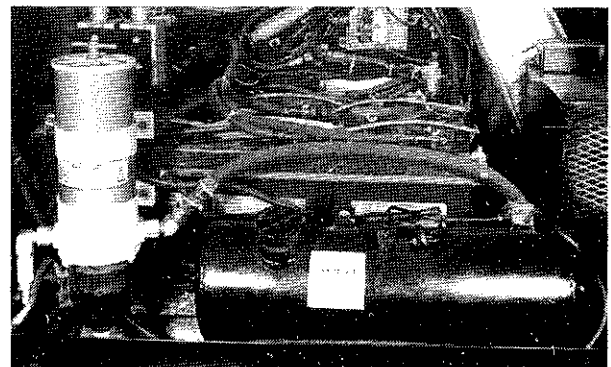

Figure 11-7. Bulk Oil Fill Tank.
4. **MASTER ON-EMERGENCY OFF Switch** (on leveling system control panel, figure 11-7) — Supplies power for the leveling system (in series with **LEVEL MASTER** switch). Turning this switch **OFF** stops the system from operating and automatically resets the microprocessor to the start position. When the **LEVEL MASTER** switch and this switch are **ON**, the red top of the switch will glow.